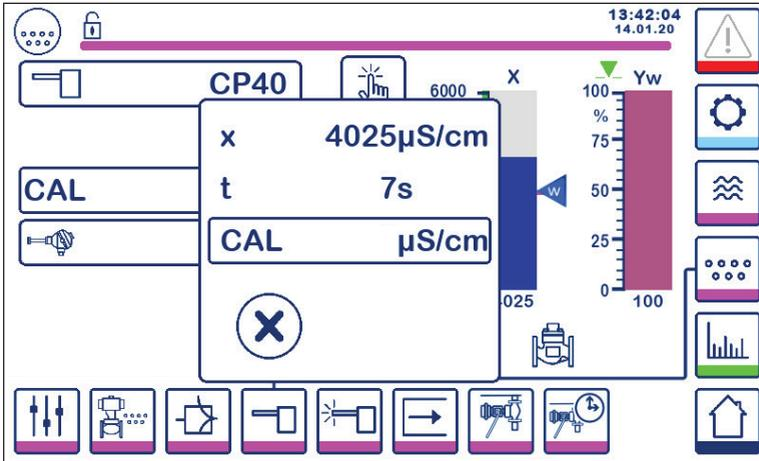

Fig. 36 Calibration with probe in blowdown line
- Start the calibration procedure (Figure 36) and note the time taken for the display to stabilise